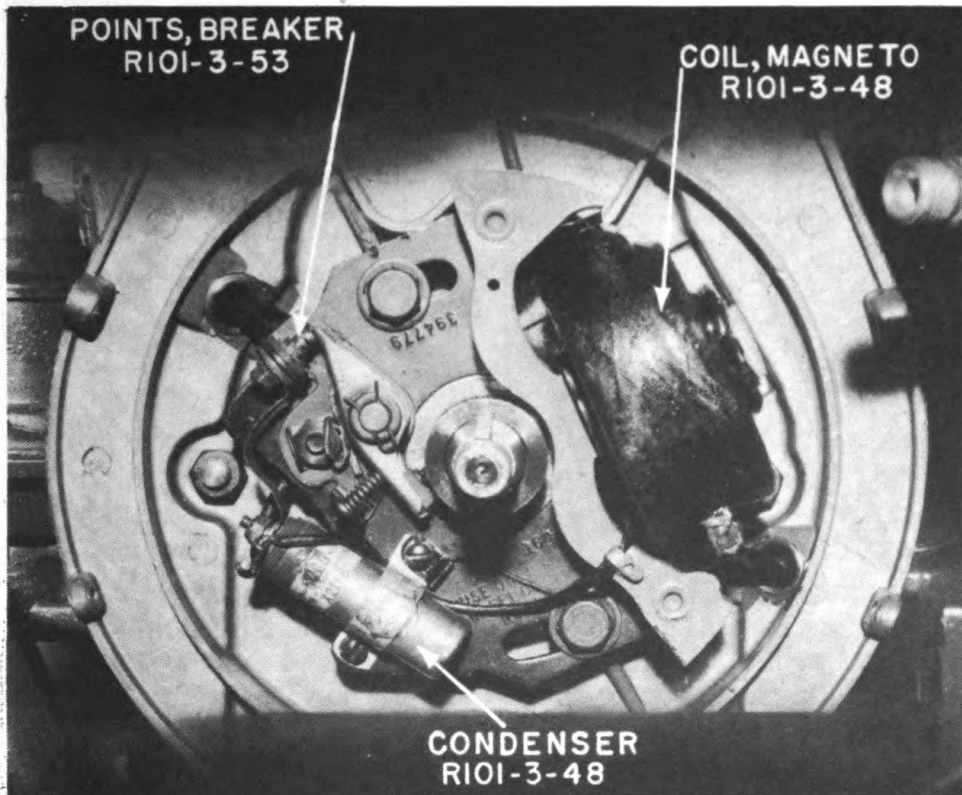

Fig 39. Magneto assembly, showing Chemical Warfare Service nomenclature of parts.
b. Responsibility. (Second echelon only) Using personnel are responsible for adjustment and cleaning of breaker points, and for replacement of breaker points, condenser, and magneto coil. Location of these components is shown in figure 39, with Chemical Warfare Service nomenclature.